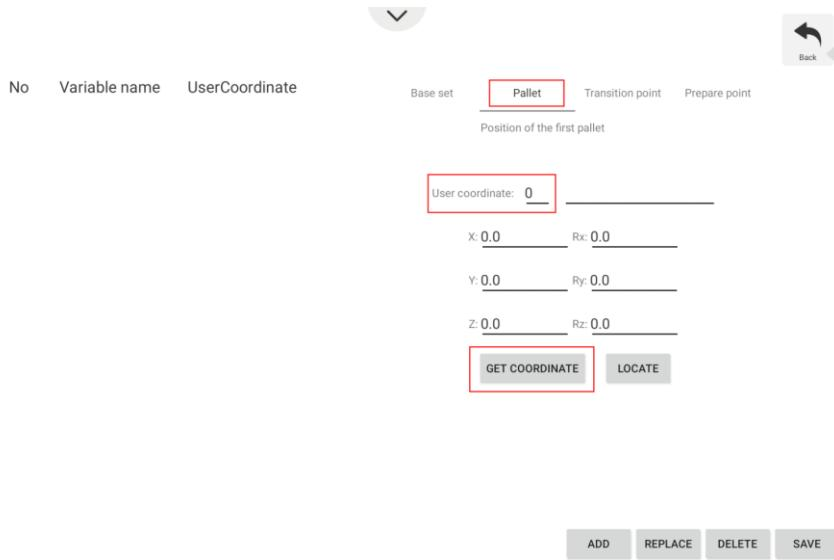

Figure 1.30 Teach the first stack position
**Step 3** Jog the robot to the first stack position and click **GET COORDINATE** on the **Pallet** tab, as shown in Figure 1.30.